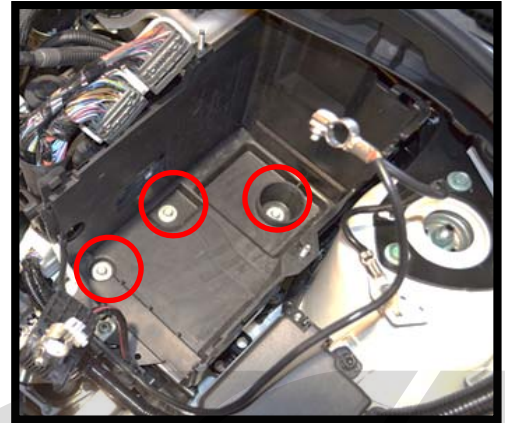

Figure 2d
- g) Remove the battery box. Remove the three 10mm bolts in the bottom of the box, and remove the battery box and ECU (red circles Figure 2d).
- g) Install the battery box back into place, with three 10mm bolts (shown in Figure 2d).
- g) **Remove the battery box.** Remove the three 10mm bolts in the bottom of the box, and remove the battery box and ECU (red circles Figure 2d).
- g) Install the battery box back into place, with three 10mm bolts (shown in Figure 2d). Feed the battery terminal lines through the cutouts in the box.